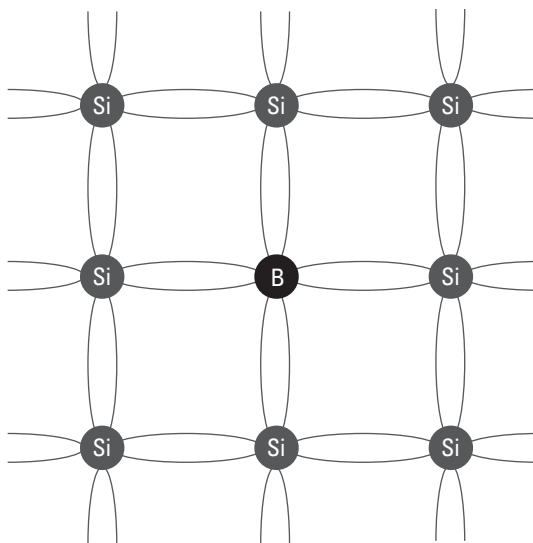

Figure 5-4:
- ◆ **P-type semiconductor:** Happens when the dopant is an element (such as boron) that has only three electrons in the valence shell. When a small amount of boron is incorporated into the crystal, the boron atom is able to bond with four silicon atoms, but since it has only three electrons to offer, a gap is created where there would normally be an electron, as shown in Figure 5-4. This electron gap is called a *hole*. The hole behaves like a positive charge, so semiconductors doped in this way are called *P-type semiconductors*.